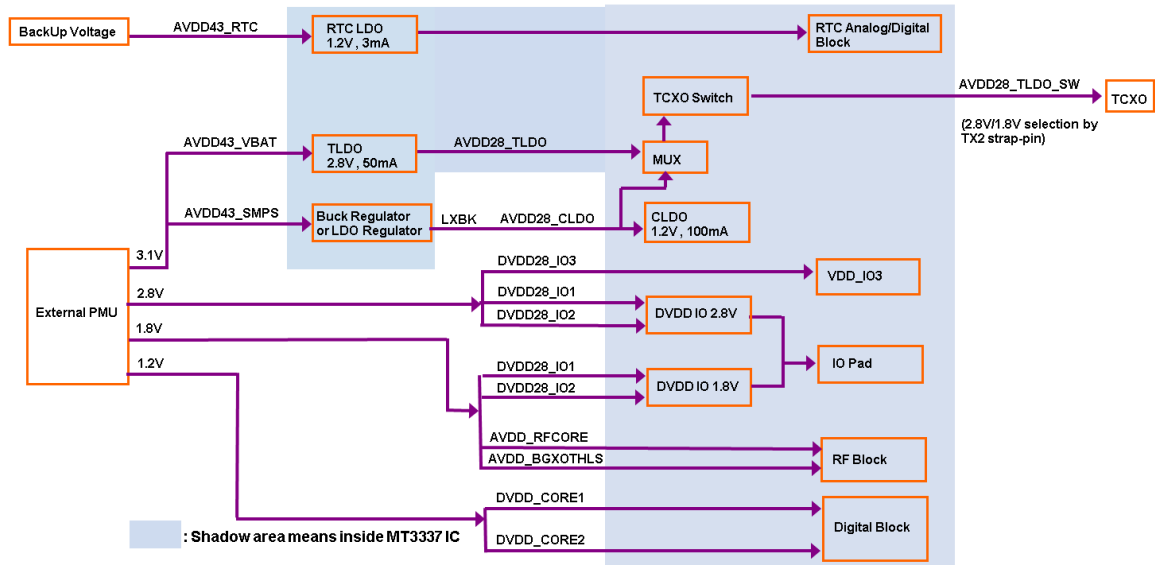

Figure 5-7: Power supply connection (external LDO)
- Figure 5-7).
- Figure 5-7, if 2.8V TCXO is used, AVDD28_CLDO should be open for saving power.